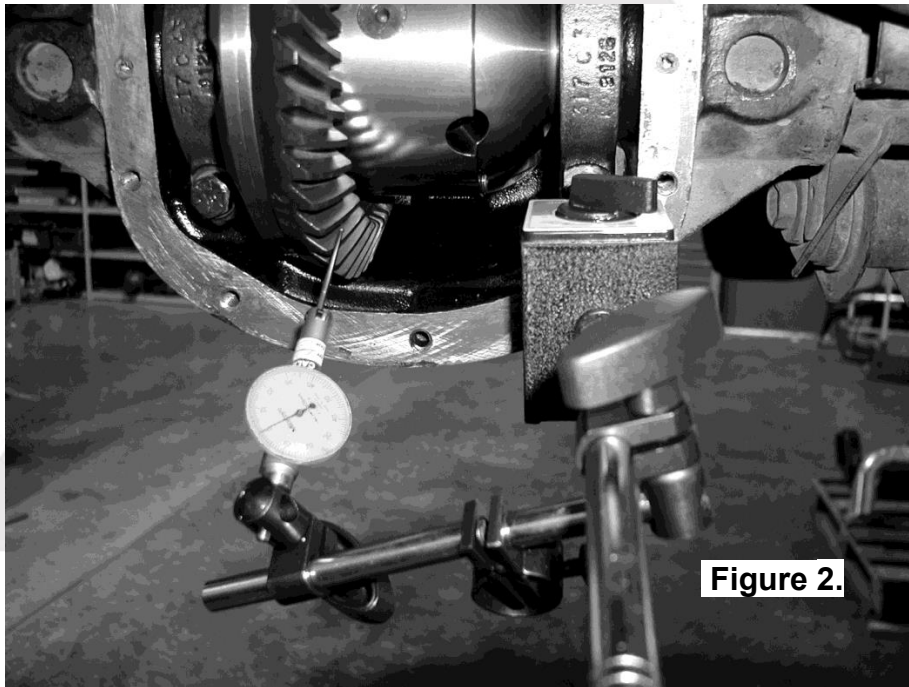

Figure 2.
- ☐ Set a depth indicator on one of the ring gear teeth as in Fig.2.